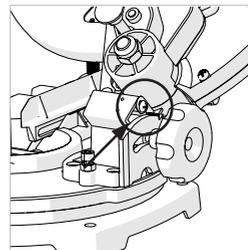

Fig. 21B
- Tilt the Cutting Head to the required angle. A protractor scale is provided as an aid to setting. (**Fig 21b**)